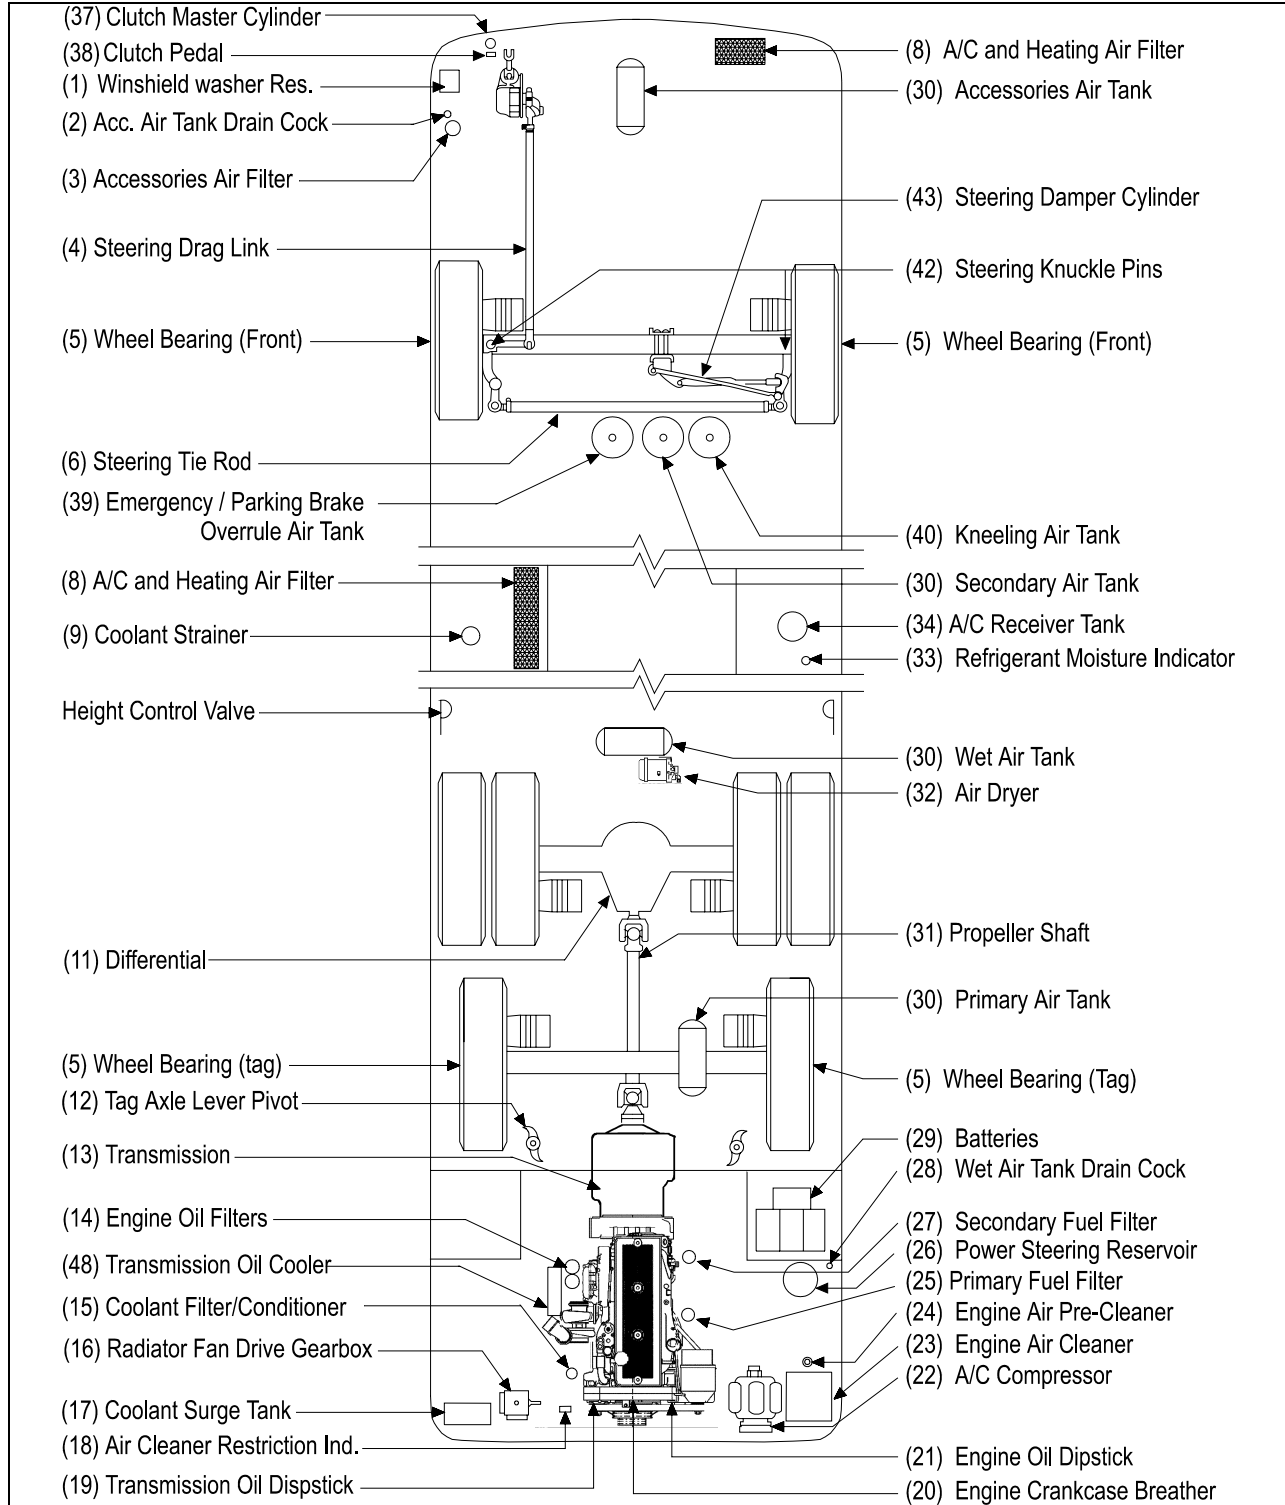

FIGURE 2: LUBRICATION AND SERVICING POINTS ON H3-41 AND H3-45 COACH MODEL (TYPICAL)
* Item numbers refer to figures 2 and 3.